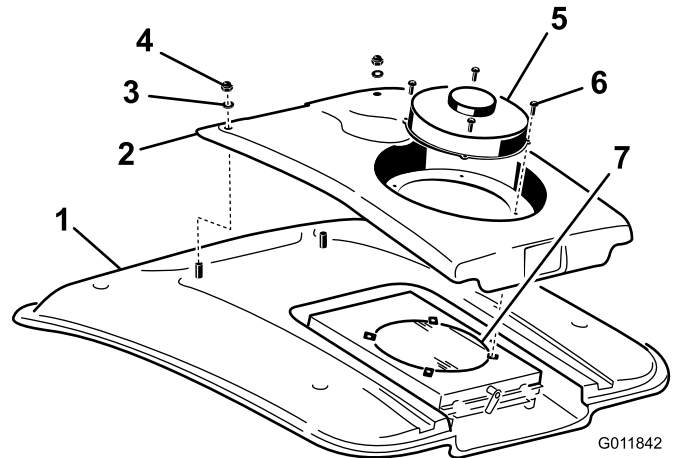

Figure 56
2. Remove the 4 screws securing the fan and the condenser cover to the fan mount (Figure 56).
4. Remove the two nuts and washers securing the front of the condenser cover to the cab roof (Figure 56).
8. Clean the air conditioning condenser thoroughly with compressed air (Figure 56).